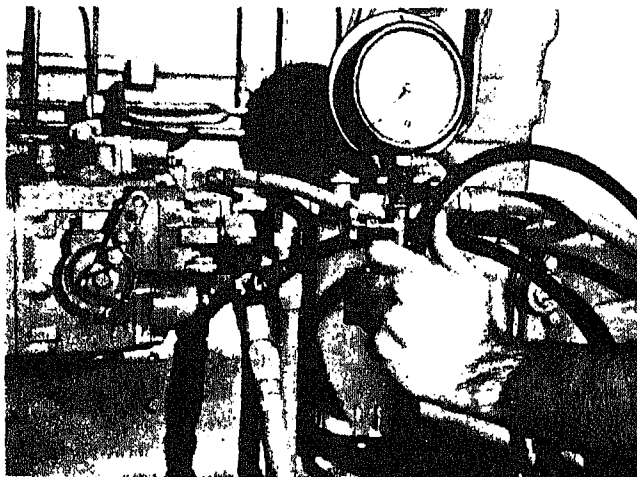

Fig. 5-12. Checking fuel filter restriction
2. If there are indications of air leaks on suction side of fuel pump, check for air leaks by placing a sight gauge in the line between fuel filter and pump. Bubbles over 1/2 in [12.7000 mm] long or "milky" appearance indicates an air leak. Find and correct. See (3, Fig. 5-12).
To check restriction, connect ST-434 Vacuum Gauge (1, Fig. 5-12) to the fuel pump, using the special adapter (2) furnished. If restriction reads 8 to 8.5 inches vacuum while the engine is running at full speed and load, change element or remedy other sources of restriction. When restriction becomes as great as 10 or 11 inches vacuum, the engine will lose power.